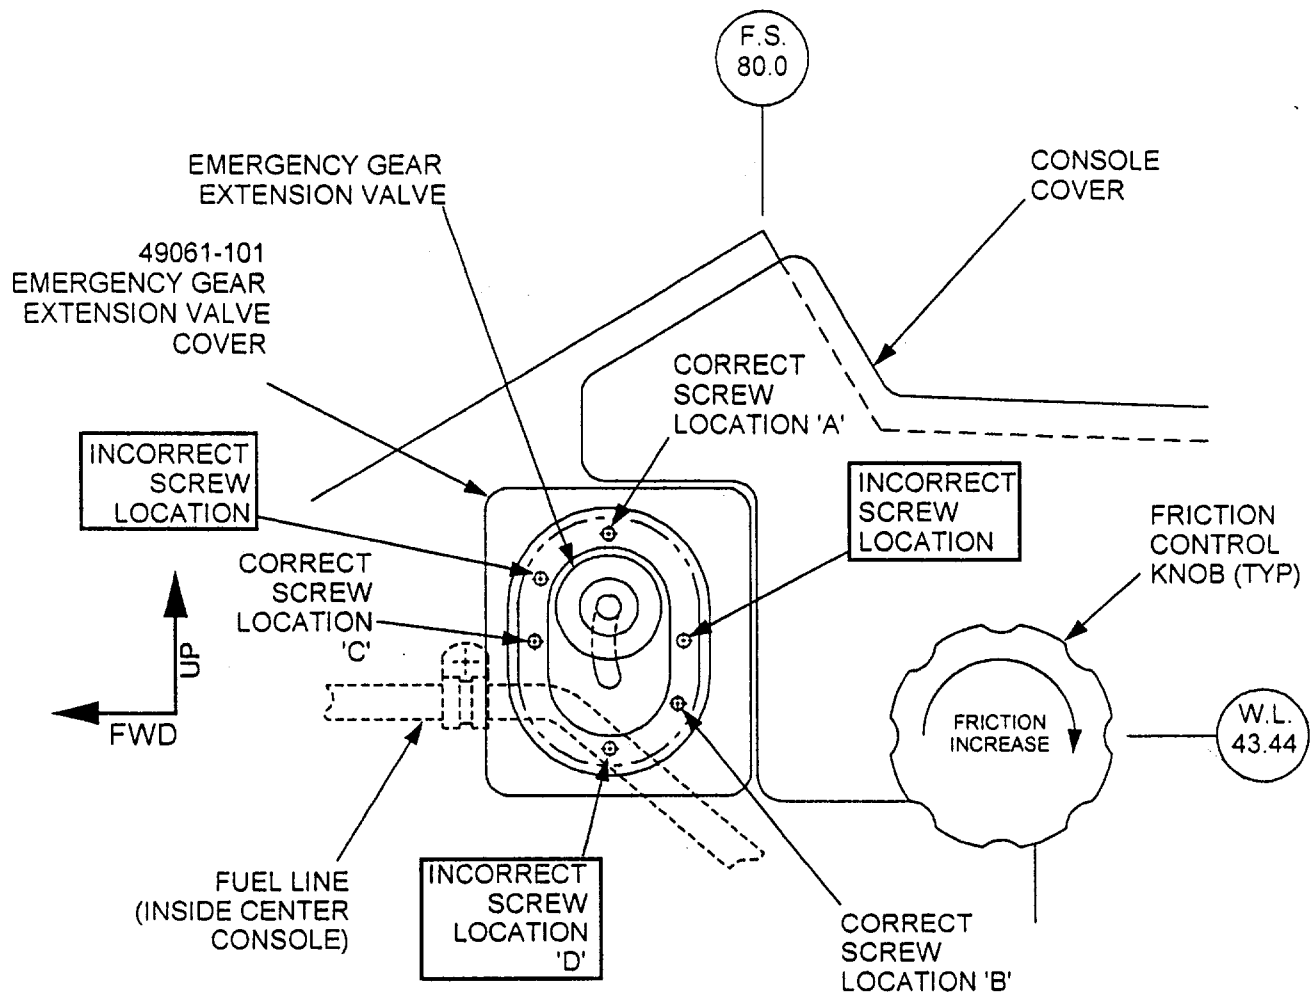

Figure 1.
3. Refer to Figure 1. Examine the area around the Emergency Gear Extension Valve. Verify that the location holes for the three screws attaching the Emergency Gear Extension Valve Cover to the center console match the correct hole locations A, B, and C.
Part II: Inspection of the Fuel Line - Refer to Figures 1 and 2